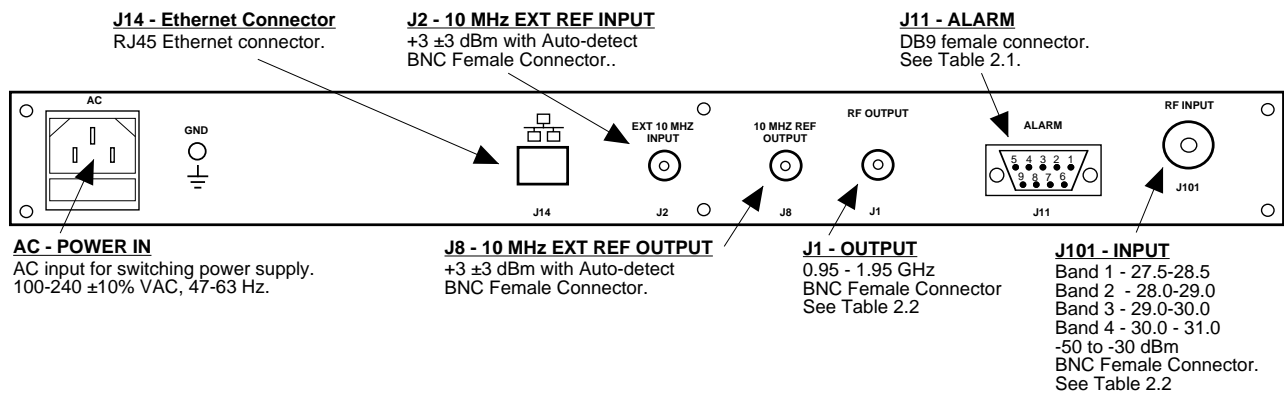

FIGURE 2.2 3116-41-310 Rear Panel Inputs and Outputs
2.2 Rear Panel Input / Output Signals - Figure 2.2 shows the input and output connectors on the rear panel.
1. Connect a -27.5 dBm to 31.0 dBm signal to RF-BAND INPUT (J101) Figure 2.2.